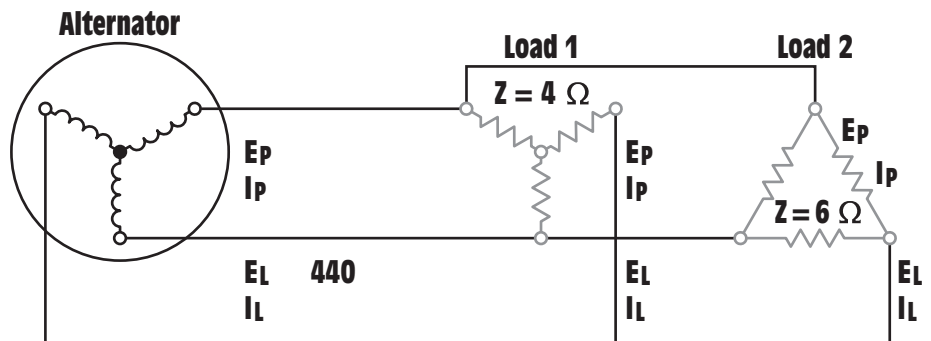

Figure 12-19 Computing three-phase values using a wye-connected source and two three-phase loads (Example 3 circuit).
The phase windings of an alternator are connected in wye. The alternator produces a line voltage of 440 V, and supplies power to two resistive loads. One load contains resistors with a value of 4Ω each, connected in wye. The second load contains resistors with a value of 6Ω each, connected in delta, *Figure 12-19*. The following circuit values will be found.
3. Refer to the circuit shown in Figure 12-19 to answer the following questions. It is assumed that the alternator has a line voltage of 560 V. Load 1 has an impedance of $5\ \Omega$ per phase and load 2 has an impedance of $8\ \Omega$ per phase. Find all missing values.